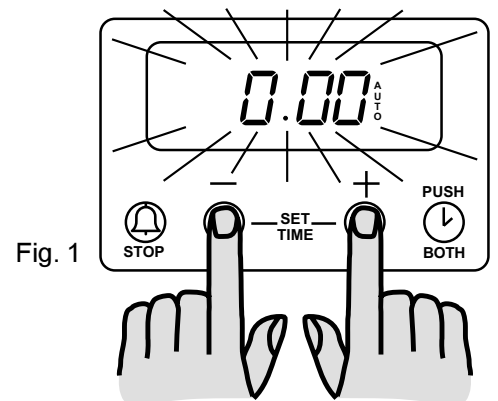

Fig. 1
1. Press button “+” and “—” together (See Fig. 1).